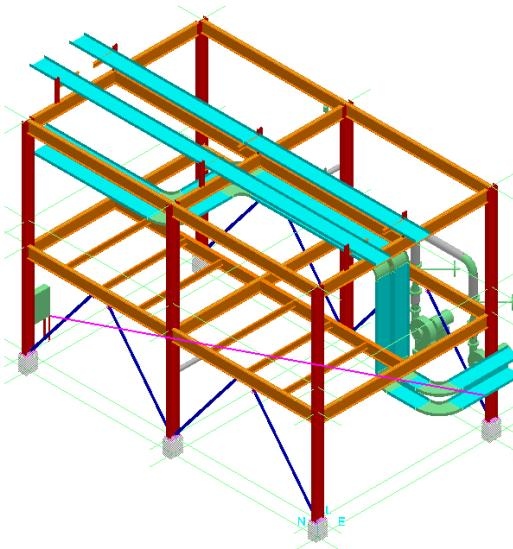

Figure 13: Selected Cable in Unit U01
6. Select **CABLE-3** in the **Workspace Explorer**. SP3D opens the **Edit Cable Path** ribbon and highlights the cable graphically, as shown in Figure 13.